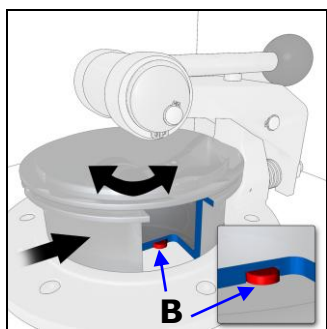

Fig. 12 Locking bolt
- Engage the milling set in the locking bolt **B** of the holding device by turning slightly. (Fig. 12 Locking bolt)